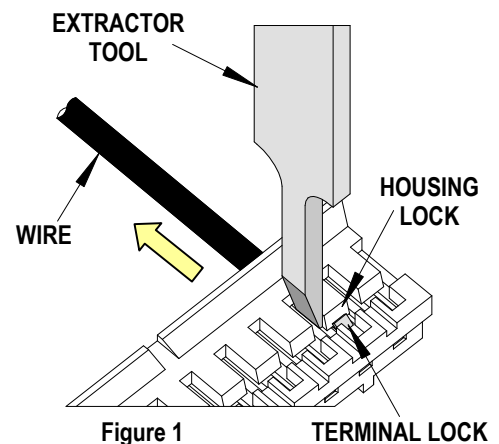

Figure 1
3. Gently lift up on the housing tab and push the terminal back through the connector slot and pull the terminated wire out in the arrow direction. See Figure 1.